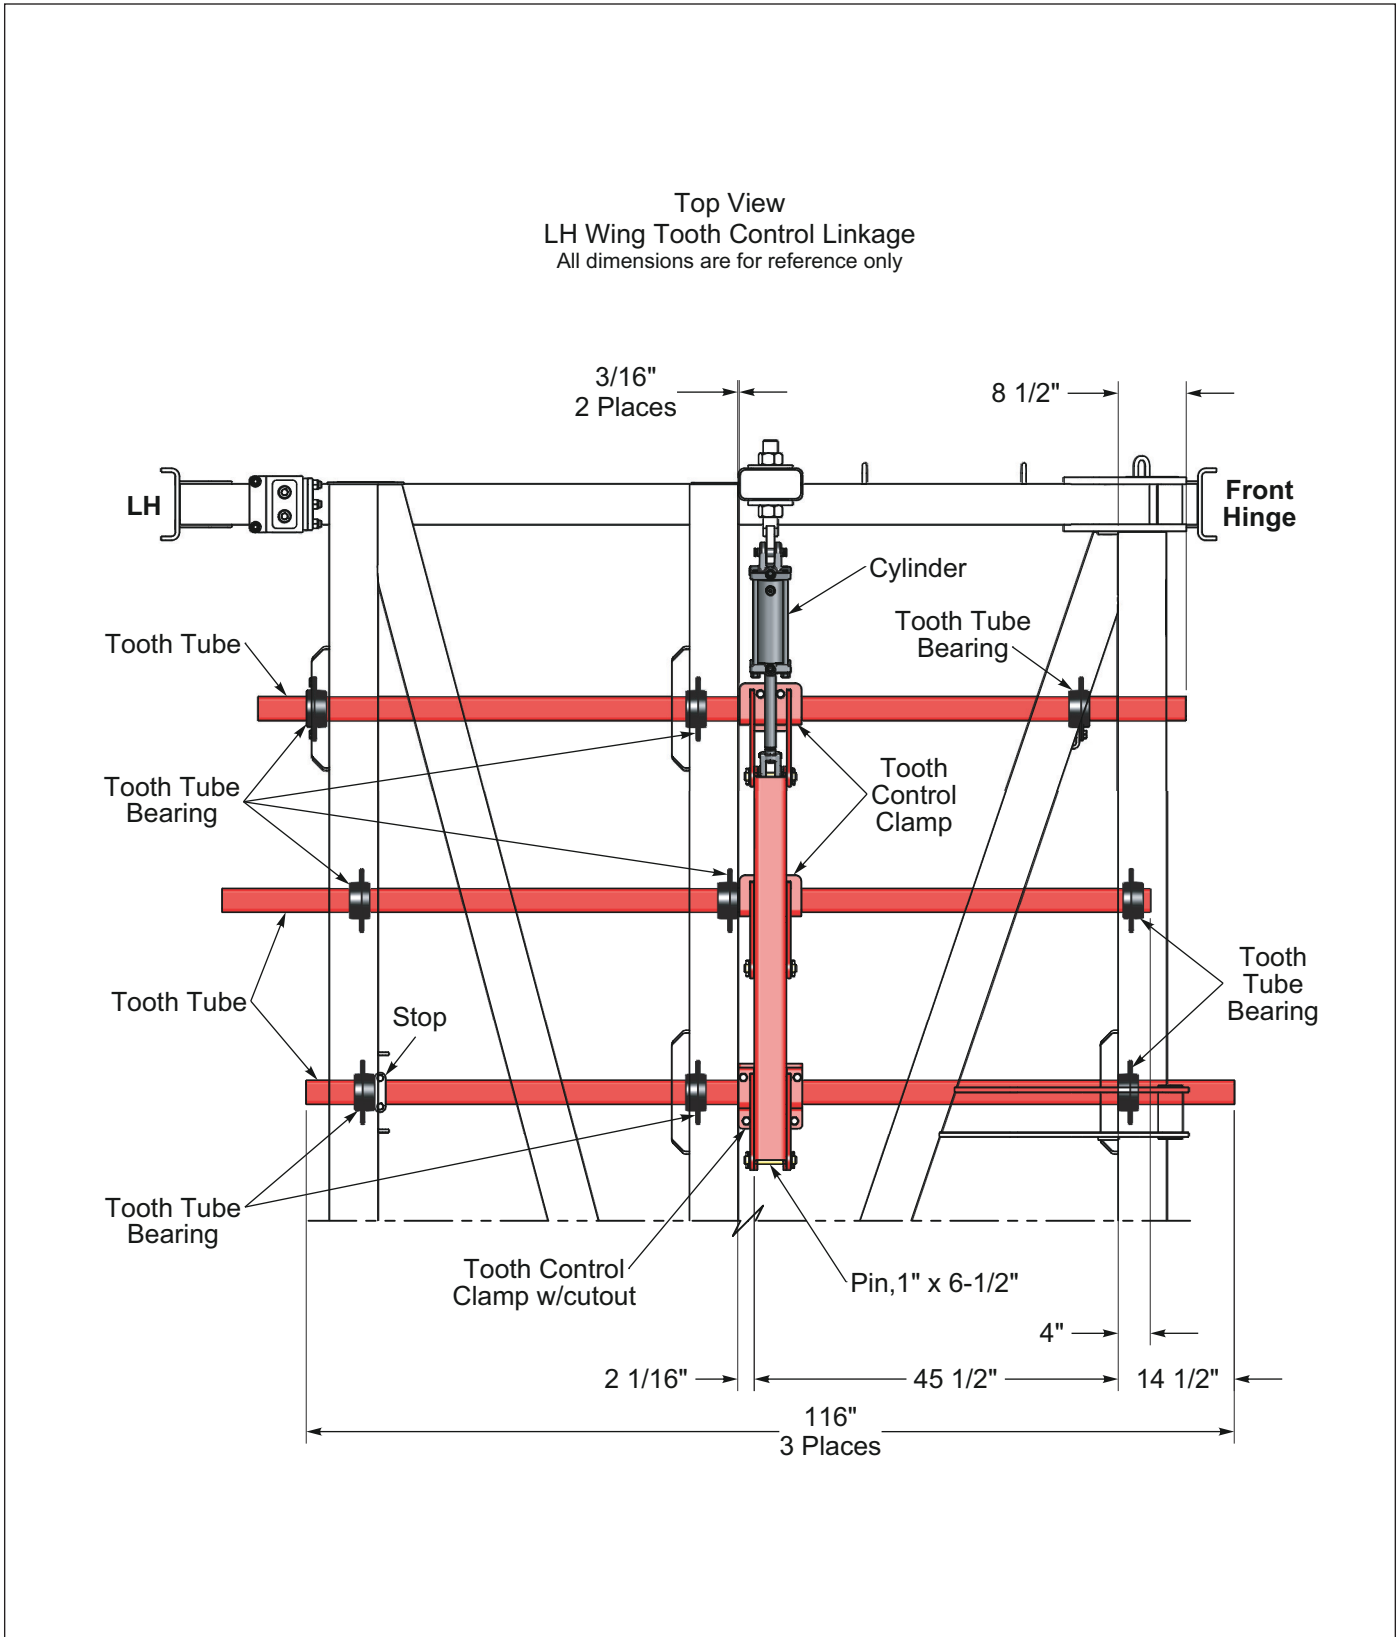

Figure 2-63: Left Hand Wing Tooth Control Linkage
2. Position Tooth Tubes in the proper lateral position to the wing frame before continuing. See **Figures 2-63 and 2-64**.
Tighten hardware after positions of clamps and tube have been verified. **See Figure 2-63.**